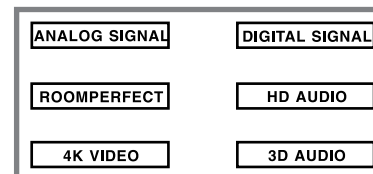

Figure 56
- E. The ANALOG SIGNAL Display will illuminate when the audio input signal is analog. Refer to figure 56.